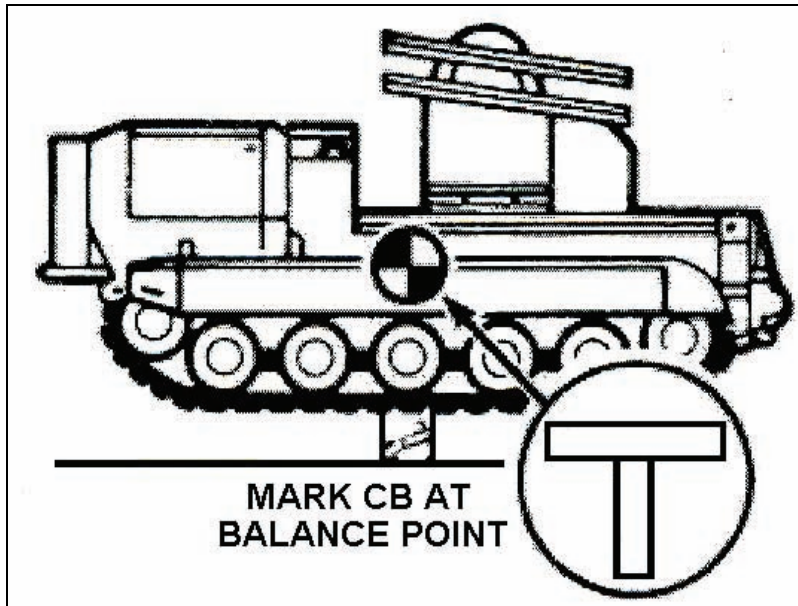

Figure 3-103. Marking the CB and Gross Weight of a Tracked Vehicle
9. Direct personnel to mark the center of balance and gross weight of a tracked vehicle using prescribed procedures (see Figure 3-103).